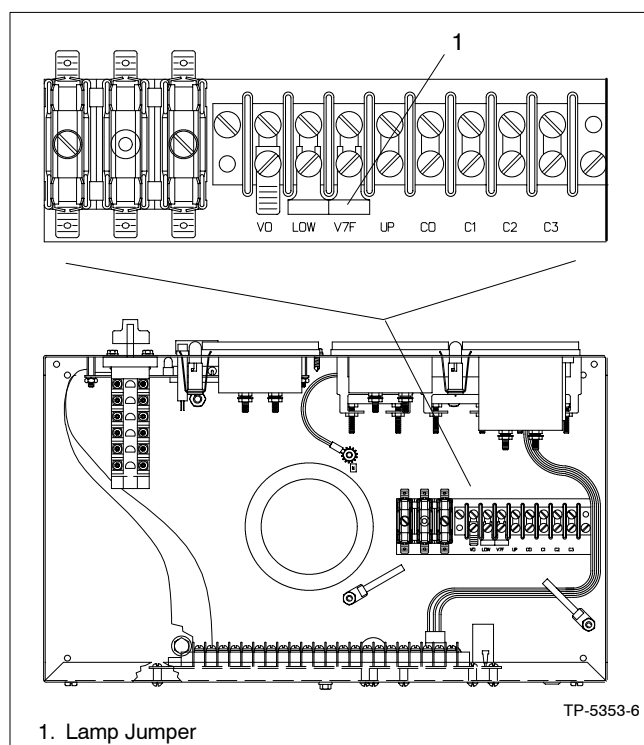

Figure 8-6 Meter Scale Lamp Jumper
5. If the controller has meters, remove the controller cover and reposition the meter scale lamp jumper (see Figure 8-6) matching the position of the desired voltage (shown in Figure 8-5).
5. Connect a digital AC voltmeter (or other 1% minimum accuracy voltmeter) to terminals V0 and V7 on the controller terminal block. See Figure 8-6.